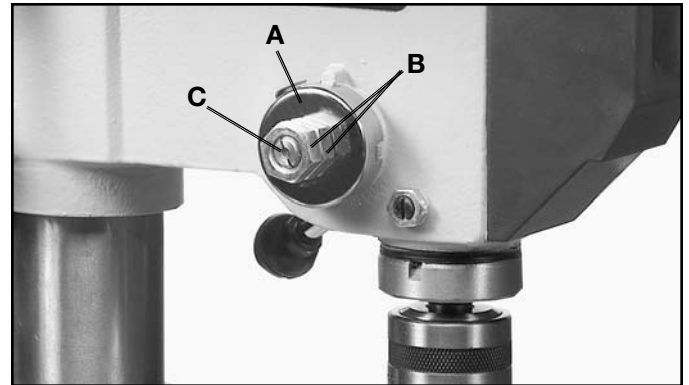

Fig. 33
For the purpose of automatically returning the spindle upward after a hole has been drilled, a spindle return spring is provided in the spring housing (A) Fig. 33. This spring has been properly adjusted at the factory and should not be disturbed unless absolutely necessary. To adjust the return spring, proceed as follows:
2. Loosen the two nuts (B) Fig. 33, approximately 1/4". Do not remove nuts (B) from shaft (C).